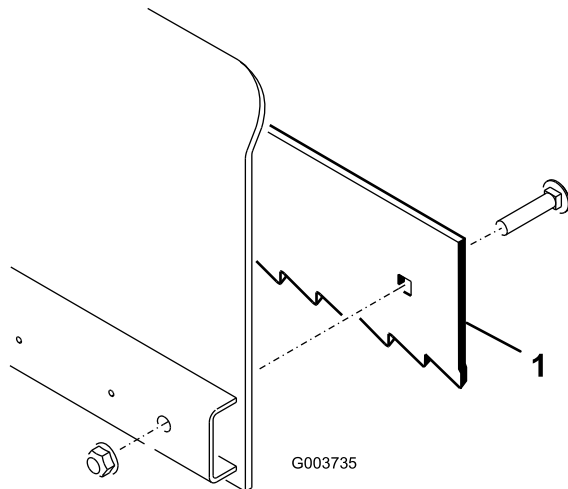

Figure 3
- **For a more-aggressive conditioning:** Position the wear plate (Figure 3) with the teeth facing forward.